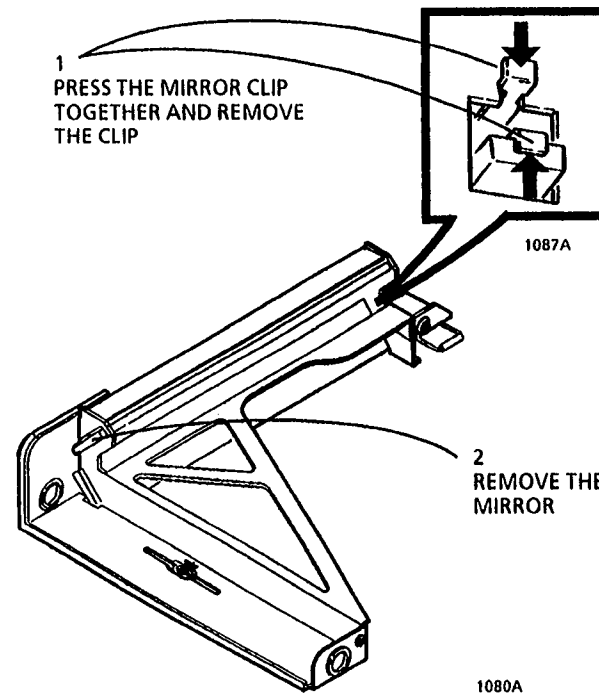

Figure 1. Removing the Mirror
3. (Figure 1): Remove the No. 2 or 3 Mirror.